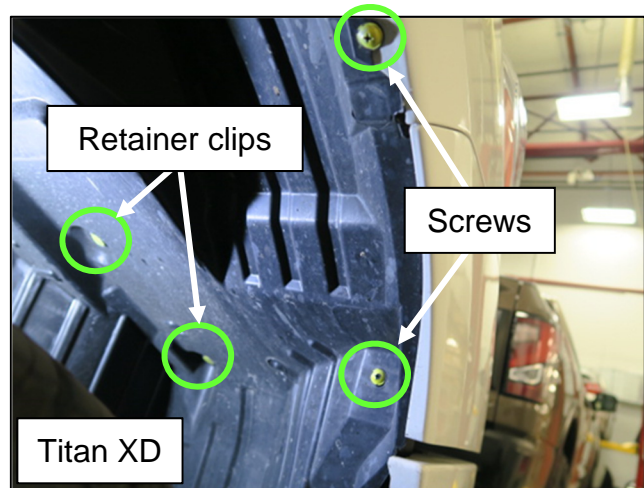

Figure 2
- Remove 2 retainer clips and 2 screws (Figure 2).